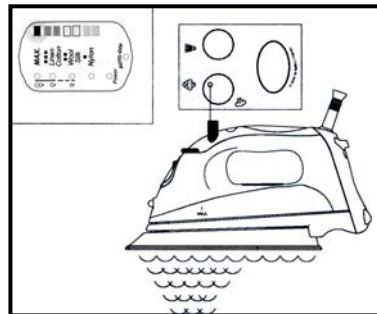

Fig. 4
- Turn the steam button to the maximum steam setting. (Fig. 4)